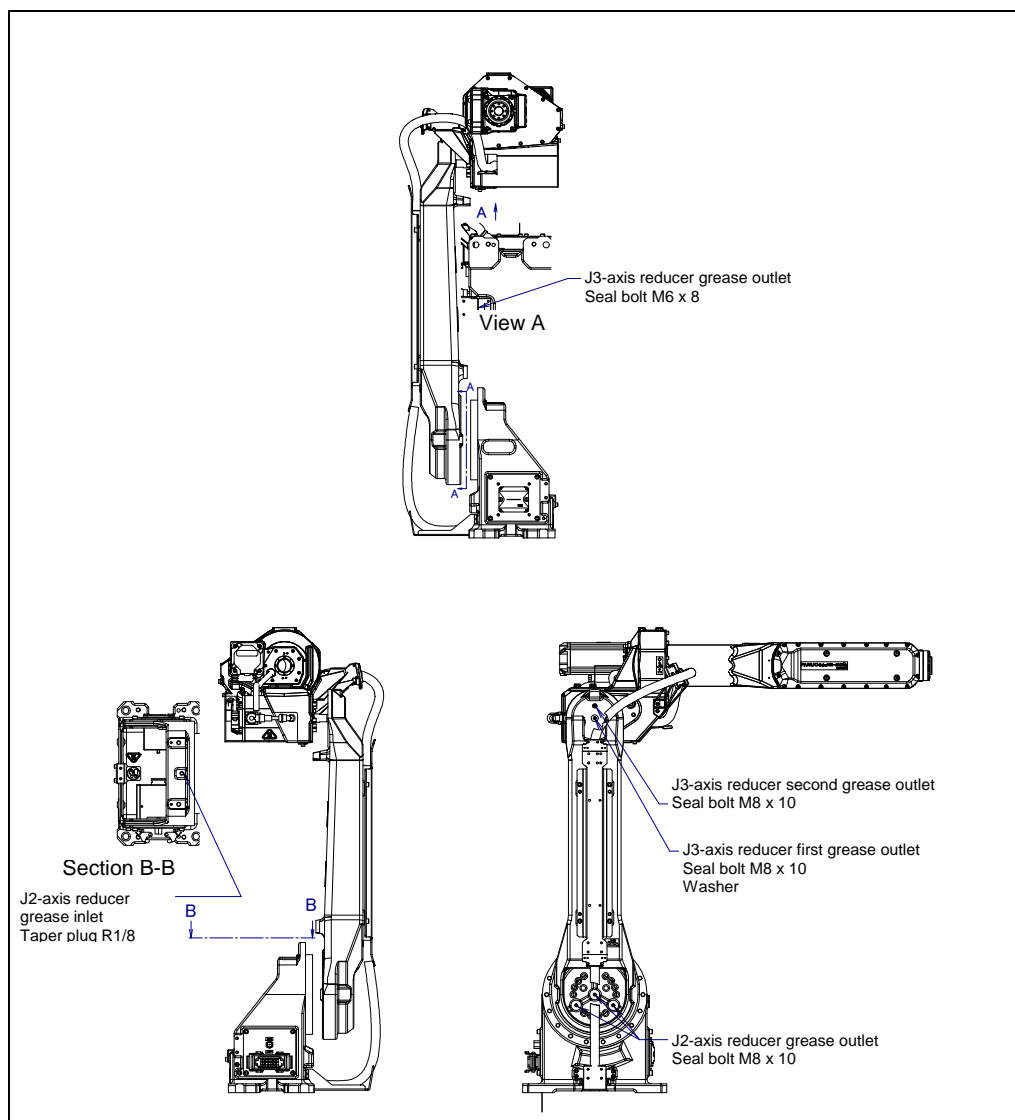

Fig. 8.3.3.1 Greasing points of J2/J3-axis reducer
- 3 Remove the seal bolt or taper plug from grease outlet. (Fig. 8.3.3.1)